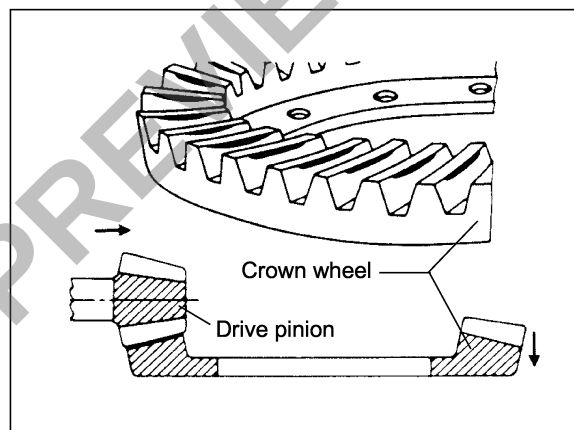

Fig. 2-371
- d. Adjusting contact condition at face (Fig. 2-371).